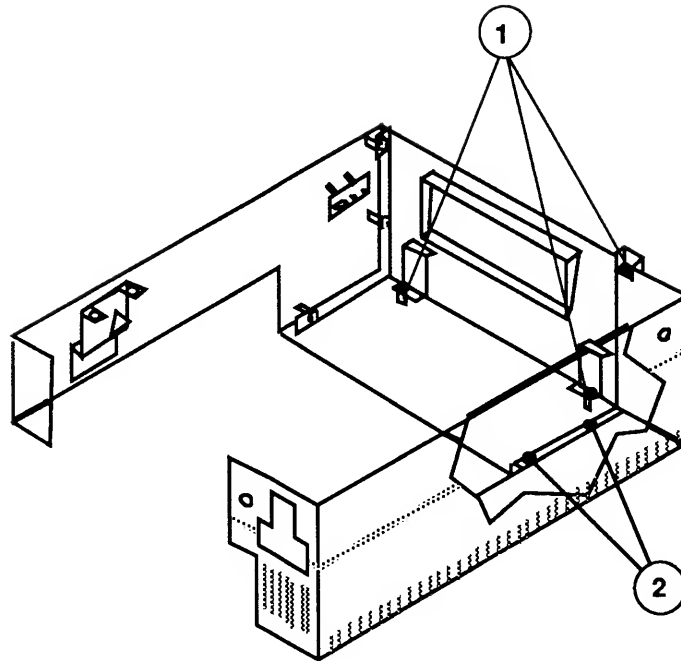

FIGURE 4
2. Remove the three Phillips screws (Figure 4, #1) that secure the lower right panel to the upper right panel.
2. Remove the three Phillips screws (Figure 4, #2) that secure the rear panel to the upper and lower right panels.